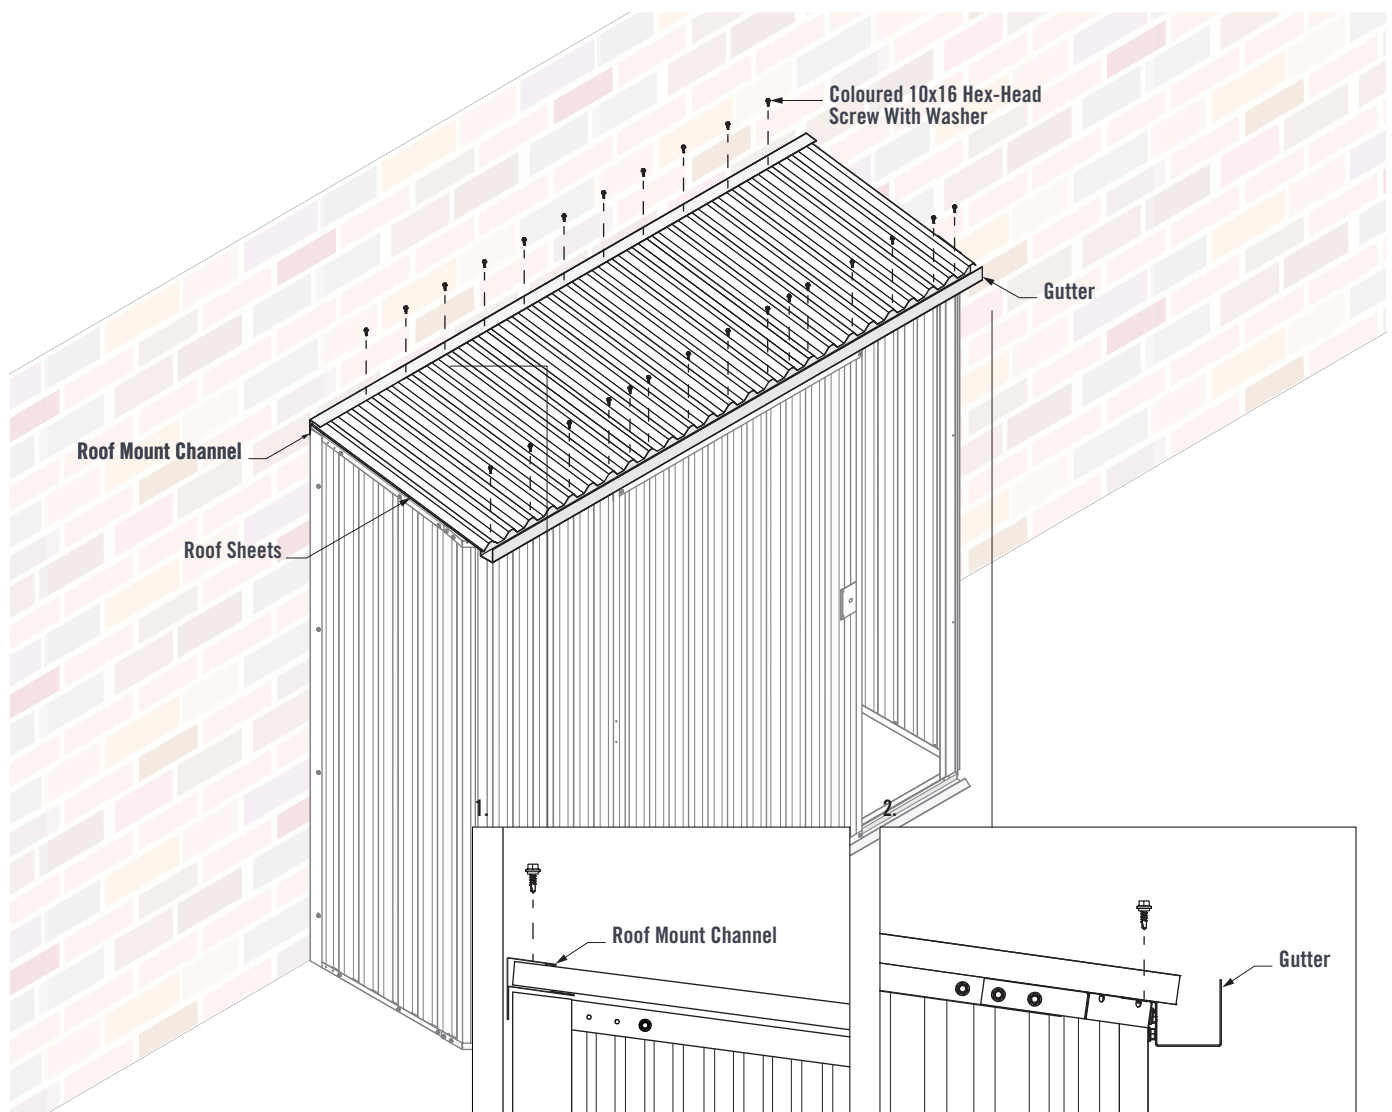

FIGURE 8.2
1. Fit the Roof Sheets into the Roof Mount Channel. Fasten eleven Coloured 10x16 Hex-Head Screws with Neo Washers through the Roof Mount Channel and into every second Roof Sheet crest (Figure 8.2).
2. Fasten fifteen Coloured 10x16 Hex-Head Screws with Neo Washers through every second Roof Sheet pan and into the Gutter. Ensure a Screw is fastened in both pans either side of the sheet laps (Figure 8.2).